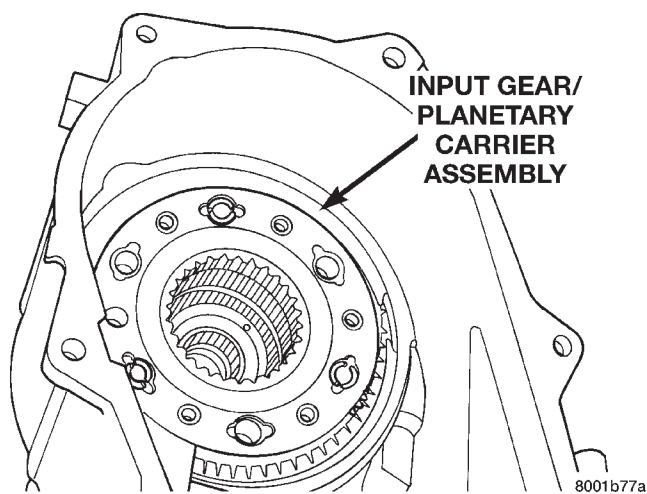

Fig. 52 Input Gear And Carrier Installation
(8) Install assembled input gear/planetary carrier in front case (Fig. 52). Be sure to align carrier pin-